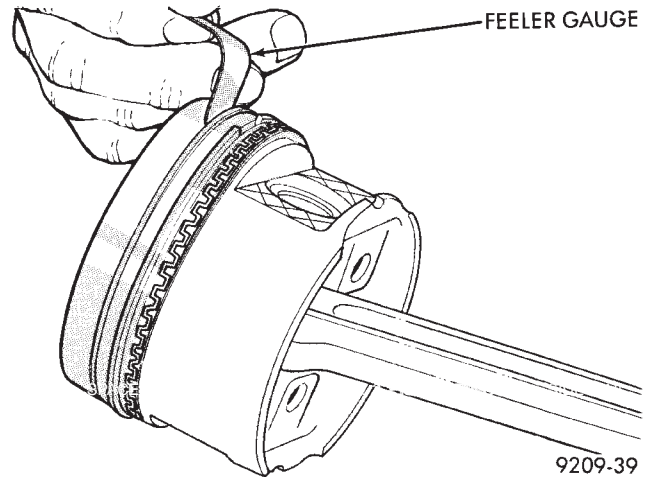

Fig. 6 Piston Ring Side Clearance
(2) Check piston ring to groove side clearance (Fig. 6). Refer to specification in piston ring specifications table.